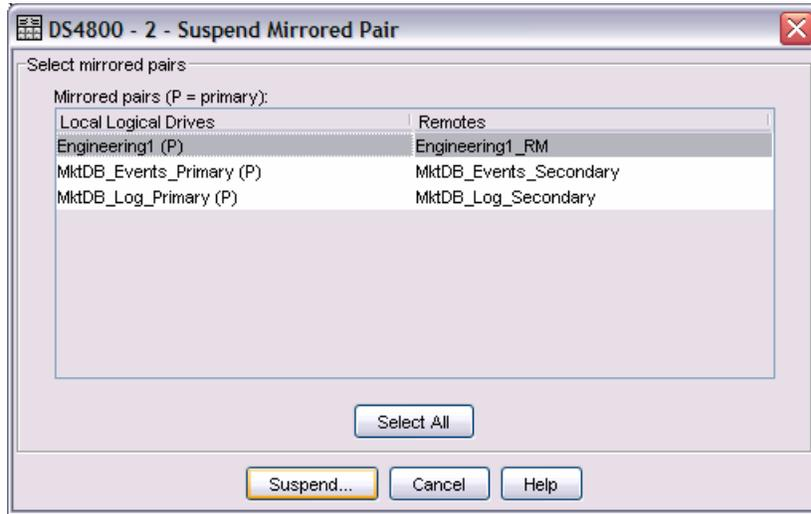

Figure 8-50 Suspend Mirrored Pair dialog
- The Suspend Mirrored Pair dialog is displayed. The Select mirrored pairs list box lists all primary logical drives in the storage system. The primary logical drive that you initially selected is highlighted (Figure 8-50).